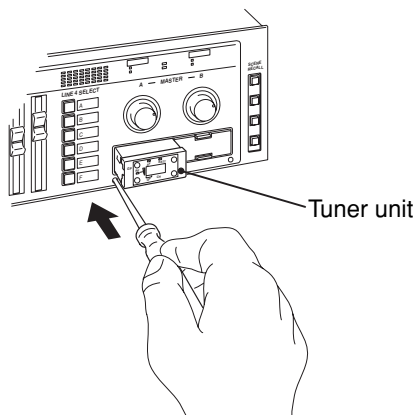

Fig. 2
- 2 Insert a screwdriver having the shaft diameter of 2 to 4 mm or less with shaft length of 30 mm or longer, into the hole under the lower part of the tuner slot as shown. Remove the tuner unit. (Fig. 2)